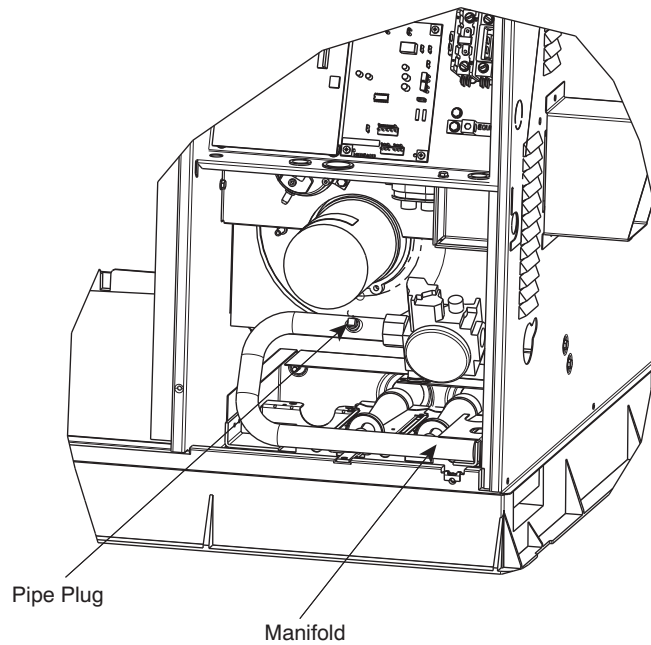

Fig. 17 - Single-Stage Burner Assembly
28. Remove the 1/8 in. pipe plug on the gas manifold and connect a pressure manometer (see Fig. 17).
32. Turn off unit, remove pressure manometer and replace the 1/8 in. pipe fitting on the gas manifold (see Fig. 17).